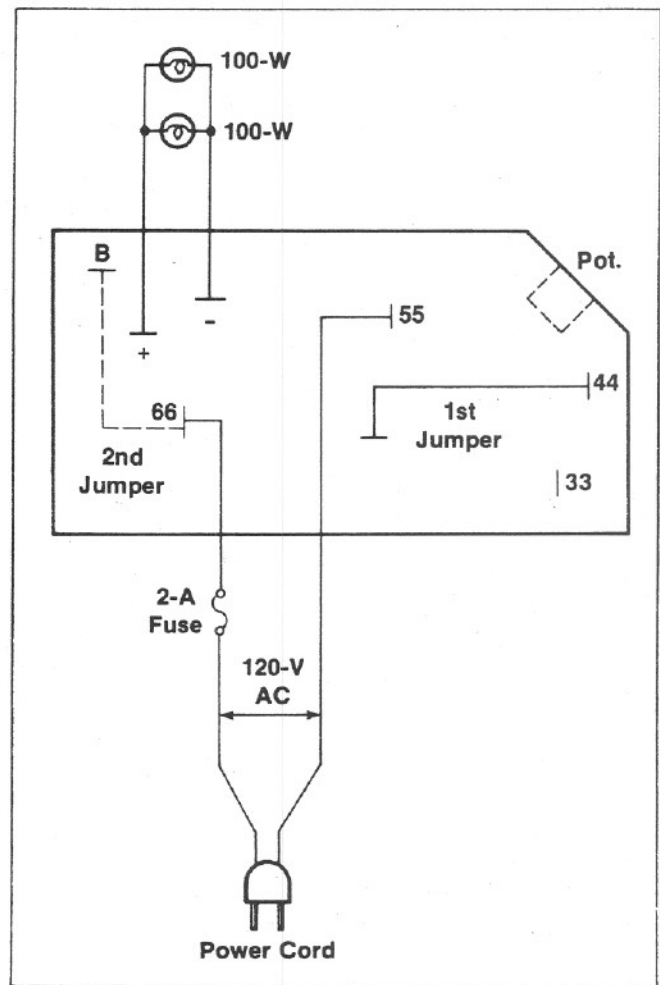

Figure 3. Voltage Regulator Bench Test
1. If regulator adjusting Pot. (See Figure 3) has not been factory sealed, set Pot. to its mid position.
2. Connect two 100-Watt bulbs across (+) and (-) regulator terminals. Connect jumper wire across regulator terminals 44 and the one unlabeled as shown in Figure 3. Connect power cord to regulator terminals 55 and 66.